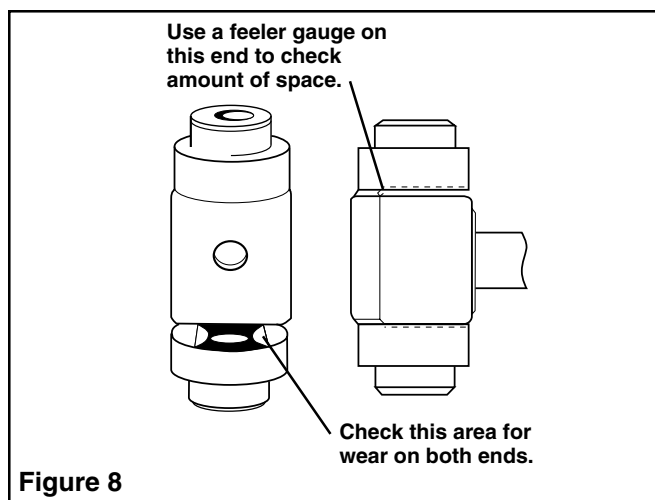

Figure 8
4. Inspect the Connecting Rod. If there is more than .007" wear in the total space between the Connecting Rod and Cam Bearing, the Connecting Rod should be replaced. This can be determined using a feeler gauge. The Cam Bearing should also be inspected, as a bad Cam Bearing is the most common cause of a damaged Connecting Rod. A worn Connecting Rod results in low volume, low pressure, a hammering sound and the pump running hot (See Figure 8).
5. Inspect Crankshaft Assembly for general wear. Rotate Cam Bearing and Main Bearings to check for roughness due to moisture contamination or lack of grease. If Main Bearings do not turn smoothly or appear to be damaged, they should be replaced. If Cam Bearing is damaged, a new Crankshaft Subassembly should be installed and the Connecting Rod inspected for wear (See Figure 8).